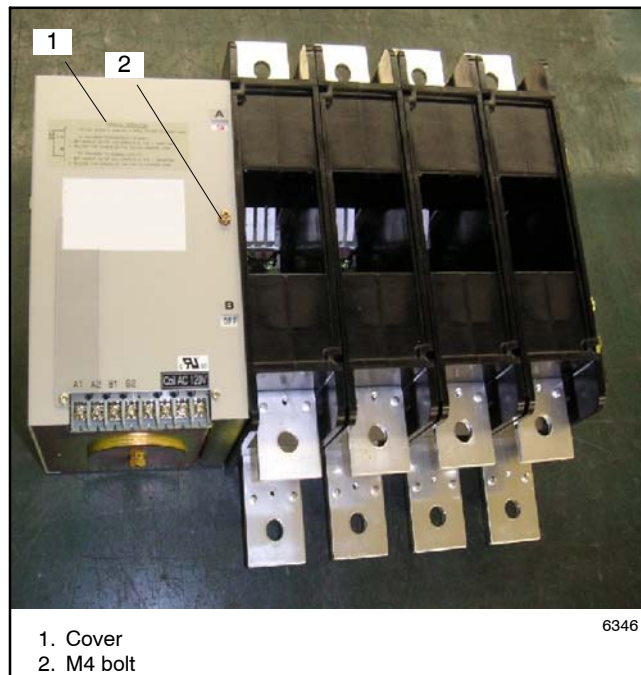

Figure 7-18 Cover
1. Loosen the M4 bolt (1) and remove the cover from the mechanical unit. See Figure 7-18.